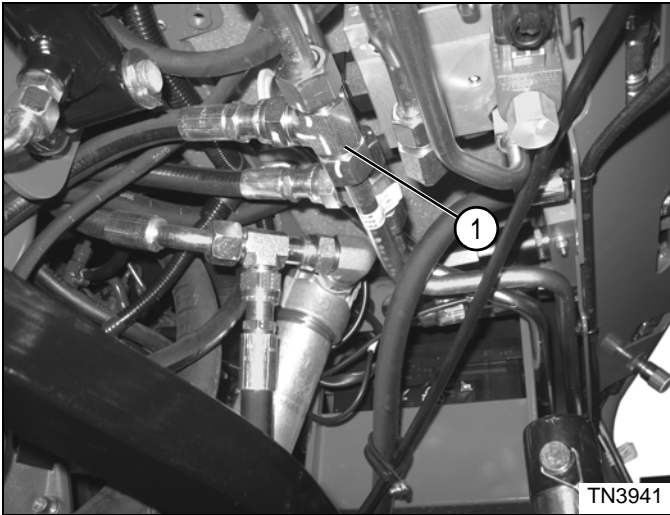

Figure 5-38
See Figures 5-38 through 5-45.
15. Remove blocking disk from location (1). See Figure 5-38. Connect hose back to tee fitting.